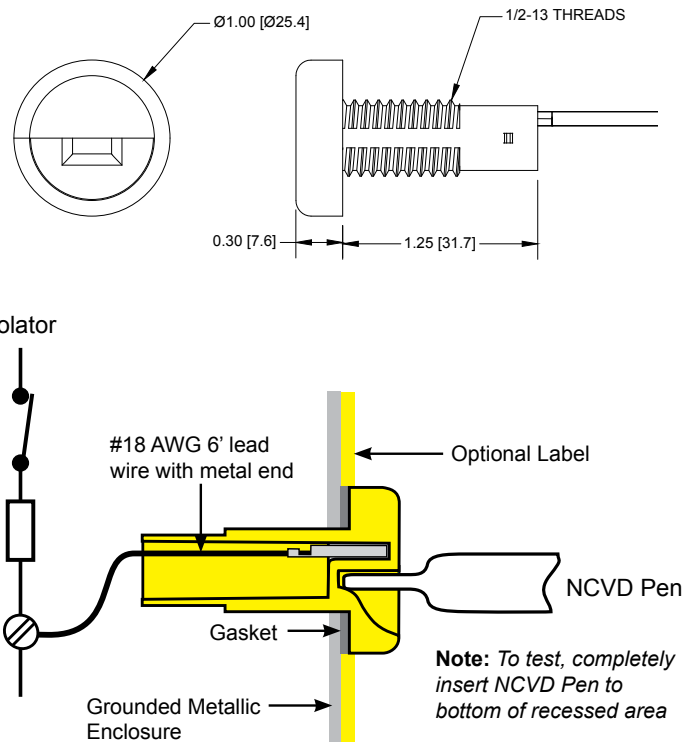

Figure 1
1. Verify proper operation of the adequately rated Non-Contact Voltage Detector (NCVD) Pen. With the Isolator/disconnect switch closed and the electrical panel powered, verify the NCVD indicates voltage by completely inserting the NCVD Pen into the bottom of the recessed area of the voltage portal (shown in Figure 1).